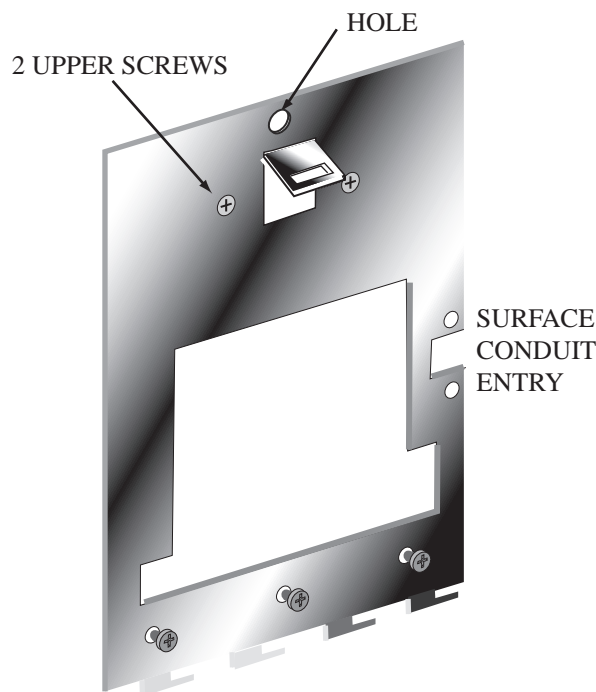

Figure 3-1: Wall Plate
1. Remove the wall plate from the packing carton. Refer to Figure 3-1 for all wall plate references in the following section.